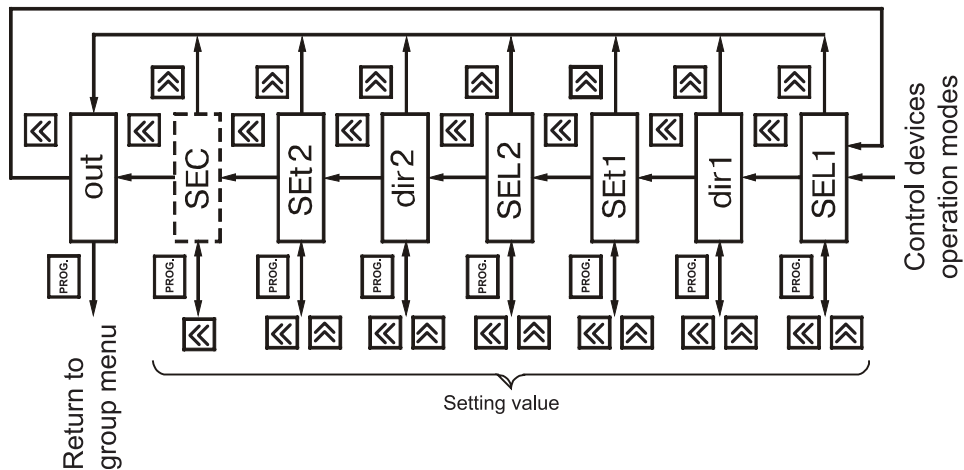

Figure 26.
6.1.9. «**Group_d**» group (figure 26) contains **SEL1** and **SEL2** parameters that define input values for LD1 and LD2, **SEt1** and **SEt2** parameters that define their operation logic and **dir1**, **dir2** parameters that define count direction at which output devices must act.